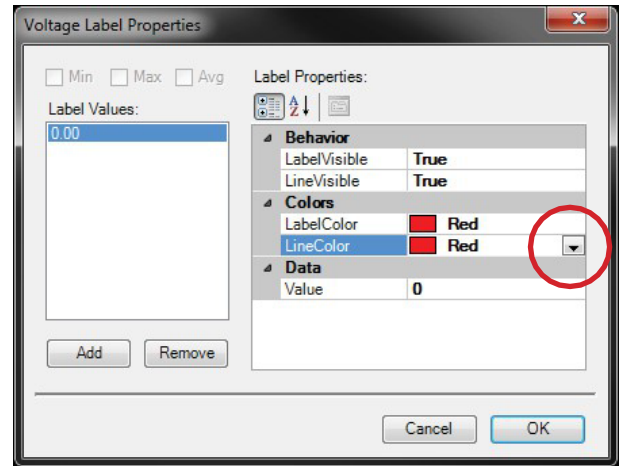

Figure 10: One can create various Chart Voltage Lines & Labels in several colors
3. The Voltage Label Properties window opens (see Figure 10)